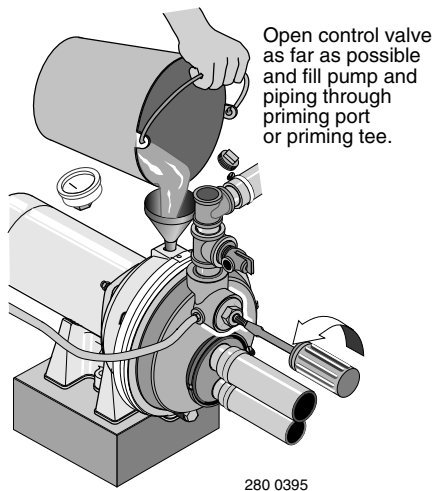

Figure 15: Fill Pump
Step 1. Open the control valve as far as possible (see Figure 15). Then remove the priming plug from the pump and fill the pump, fill all piping between the pump and the well, and make sure that all piping in the well is full. If you have also installed a priming tee in the suction piping, remove the plug from the tee and fill the suction piping.